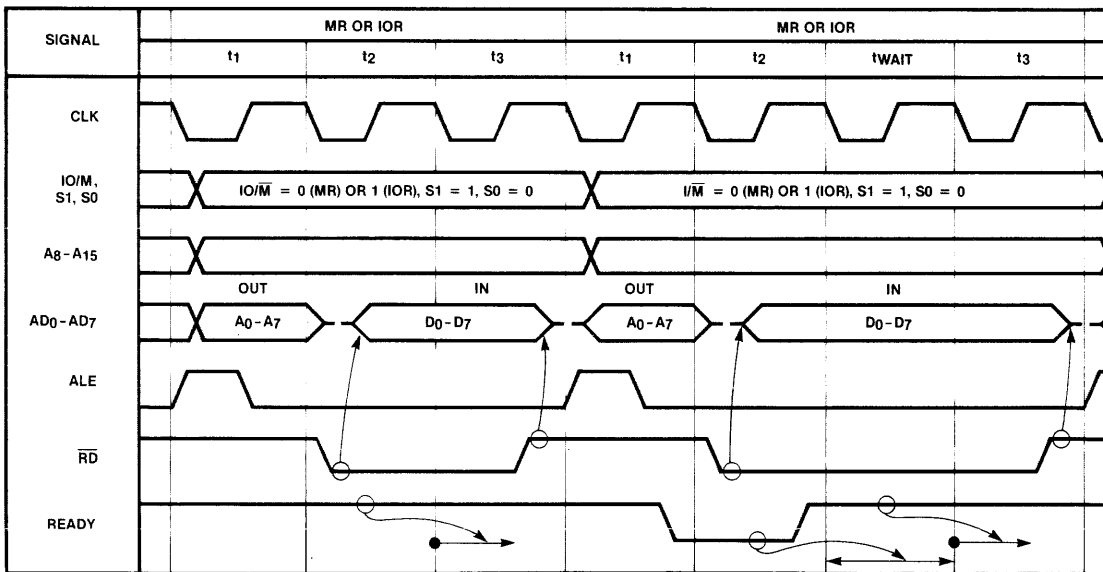

Figure 4-6. Memory Read (or I/O Read) Machine Cycle
**4-20. MEMORY READ TIMING.** Figure 4-6 shows the timing of two successive memory read
**4-21. I/O READ TIMING.** Figure 4-6 also illustrates the timing of two successive I/O read machine cycles, the first without a  $T_{wait}$  state and the second with one  $T_{wait}$  state. With the exception of the  $IO/\overline{M}$  status signal, the timing of a memory read cycle and an I/O read cycle is identical. For an I/O read,  $IO/\overline{M}$  is driven high to identify that the